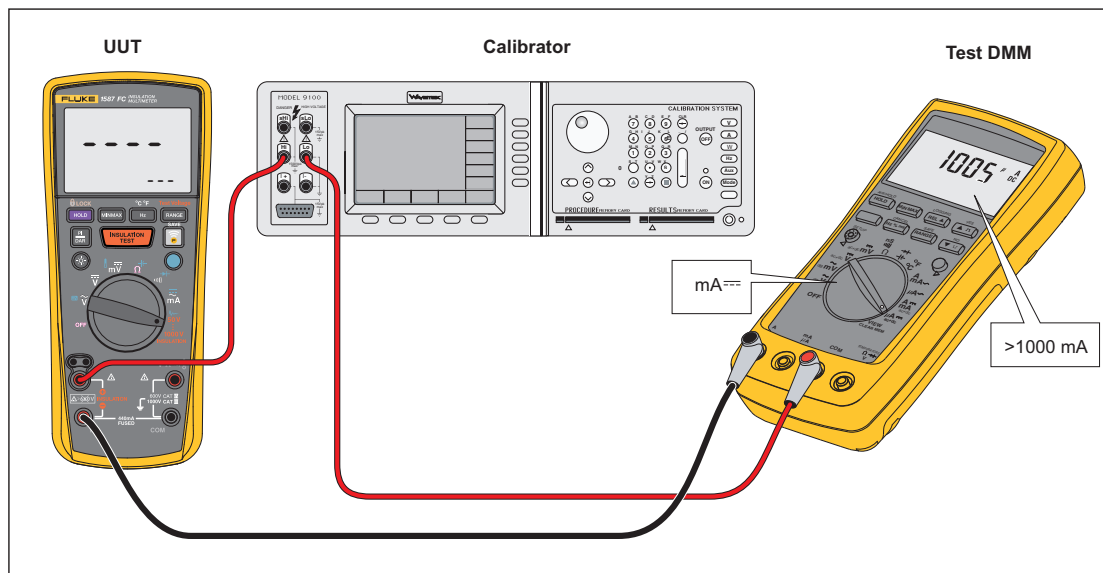

Figure 8. I Nominal Test
1. Connect the Test DMM and Calibrator to the UUT INSULATION terminals as shown in Figure 8.